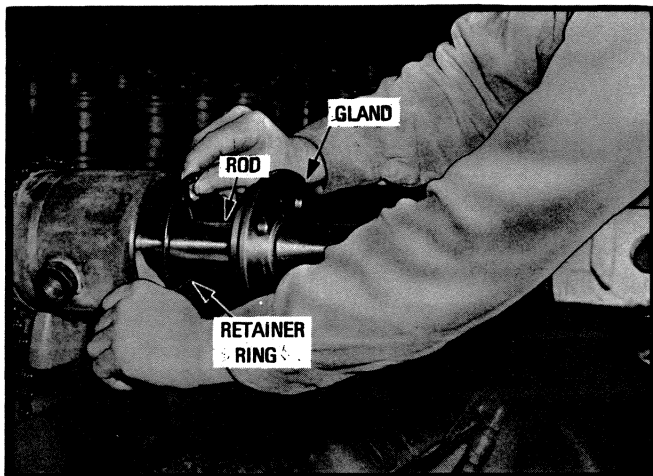

Fig. 3—Removal of Retaining Ring
3. Slide the gland assembly down the rod to make visible the retaining ring securing the barrel. See Fig. 3.